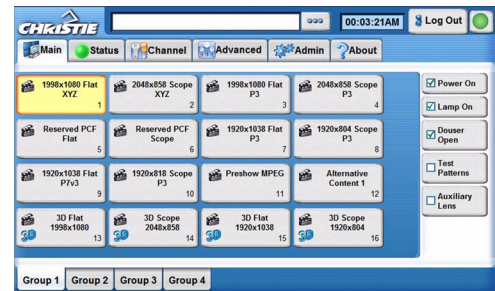

Figure 3-45 Turn the Lamp On Using the Web User Interface
2. From the **Main** menu, select **Power On**, **Lamp On** and **Douser Open**. Wait several minutes for the lamp to turn on. (Figure 3-45)